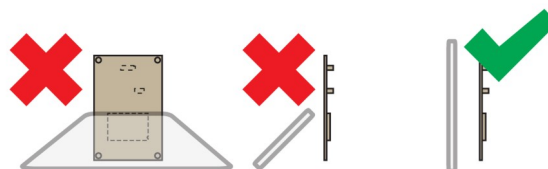

Figure 10
- Ensure the design intuitively guides the user to position the card parallel to the antenna, avoiding any angled placement for consistent communication (*Figure 10*).